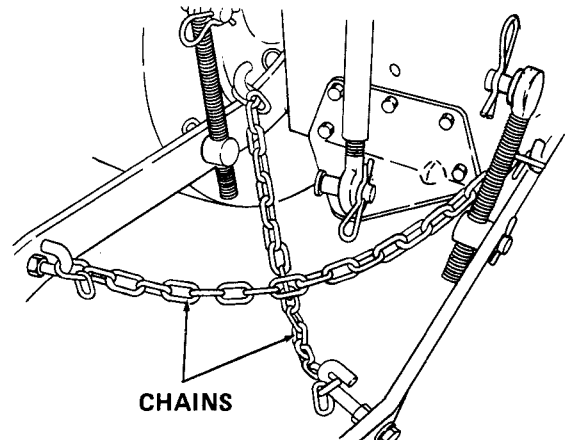

Figure A-24
11. Attach chains (T) to hooks on draft bar assemblies as shown in Figure A-24.